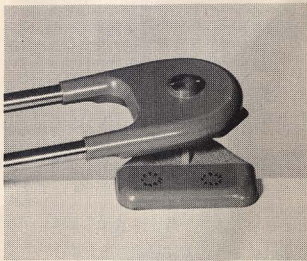

FIG. 2
2. Remove rubber cover. (The cover is cemented in place but readily removed by pulling upward at edge.) The screw holes are now exposed. See Fig. 2.